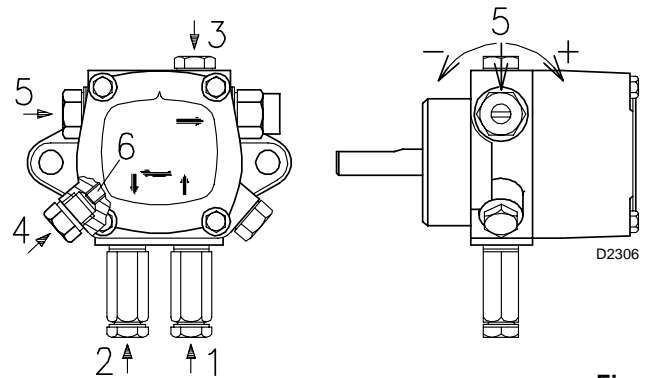

Fig. 18
- For self-priming to take place, one of the screws 3) of the pump (Fig. 18) must be loosened in order to bleed off the air contained in the suction line.